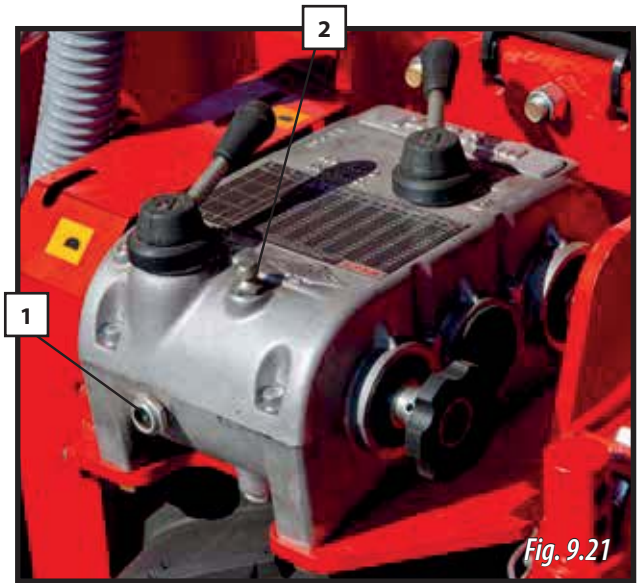

Fig. 9.21
Periodically check the oil level of the gearbox using the oil sight glass (1, Fig. 9.21).
- 1- Remove the cap (2, Fig. 9.21)
- 2- Fill the tank. Check the level using the oil sight glass (1, Fig. 9.21).